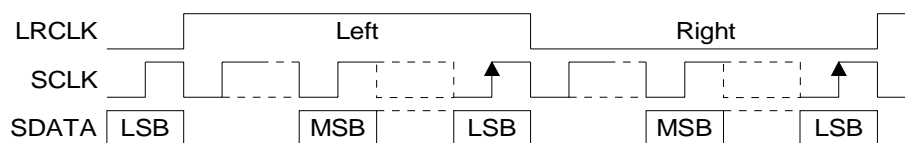

Figure 26. Right Justified
**Right Justified:** Figure 26 shows the right justified format. The right justified format is similar to the left justified format except the least significant bit is right justified to be valid on the last transition of SCLK before an LRCLK transition. Data is still presented most significant bit first. For the right justified format, the left subframe is presented when LRCLK is high and the right subframe is presented when LRCLK is low. The right justified format can also be programmed for data being valid on the falling edge of SCLK. SCLK is required to run at a frequency of 48Fs or greater on the input ports.